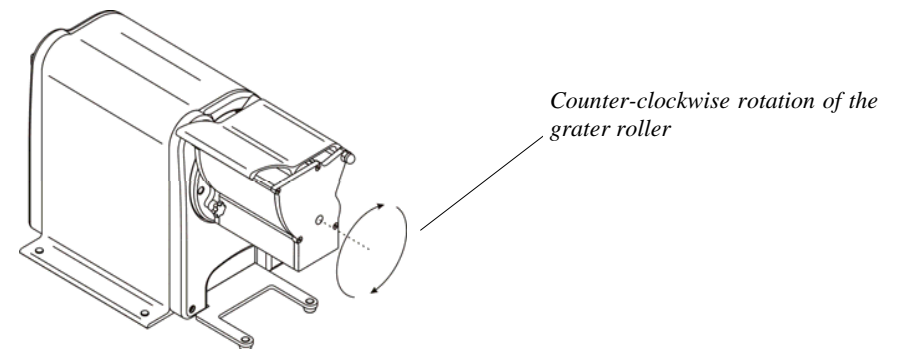

FIG. no. 7 - Rotation of the grater roller
- press the "I" on button and the "O" off button, making sure the grater roller turns counter-clockwise. Looking at this from above the hopper (*see FIG. no. 7*) you should see the roller teeth move from left to right.